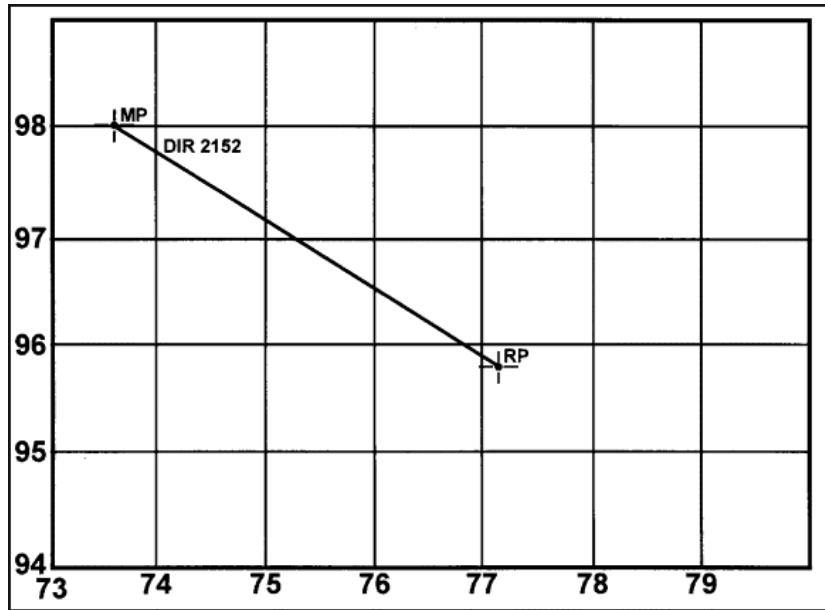

Figure A-24. Determining direction from MP to RP.
(1) Place the grid system on the plotting board the same as if firing service ammunition. Number every other black line. Every small green square equals 5 meters and every black square equals 50 meters.
(2) Place the mortar position and target on the plotting board the same as if firing service ammunition. The grids plotted are to the nearest 1 meter instead of 10 meters.
f. To determine the mounting azimuth, line up the mortar position and the RP. Read the azimuth on the azimuth scale at the top of the plotting board. Round off the azimuth to the nearest 50 mils, and superimpose this azimuth over the referred deflection. Number the azimuth scale every hundred mils using the LARS rule (Figure A-24).